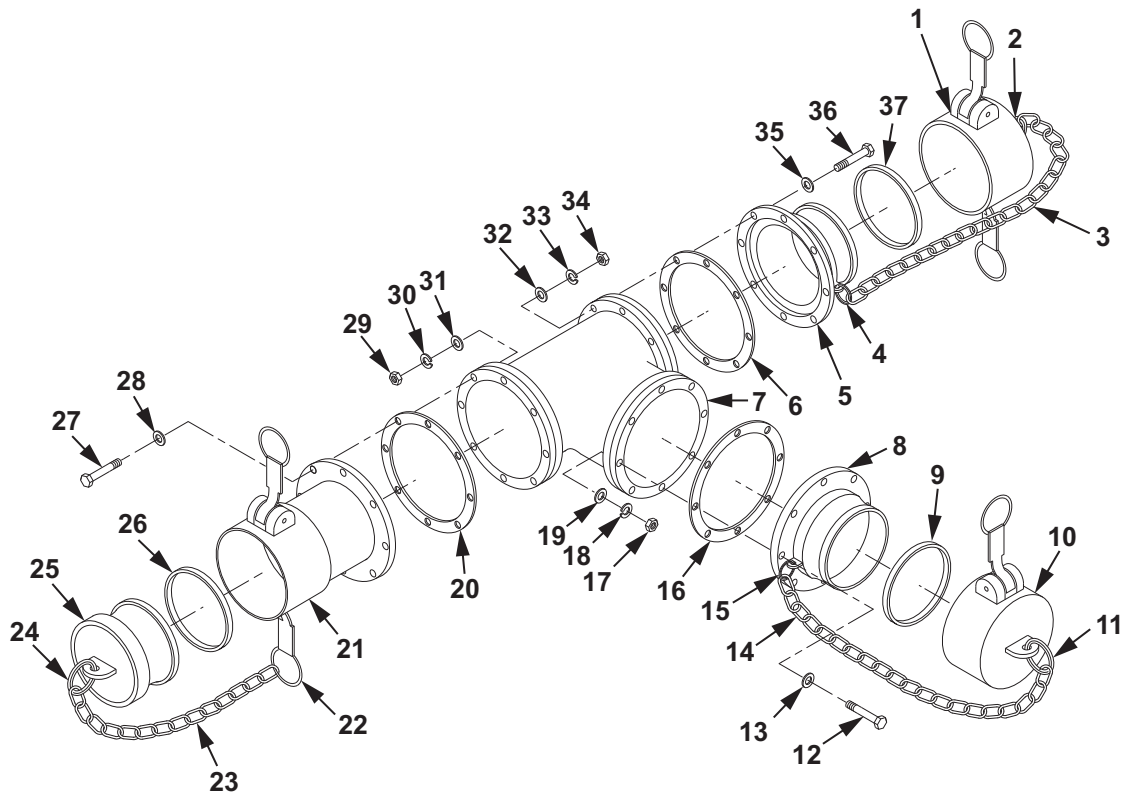

Figure 2. 4 In. Female X 4 In. Male X 4 In. Male Tee Assembly.
5. Install split ring (Figure 2, Item 15) on chain (Figure 2, Item 14).
6. Install split ring (Figure 2, Item 15) on coupling (Figure 2, Item 8).
7. Install split ring (Figure 2, Item 11) on chain (Figure 2, Item 14).
8. Install split ring (Figure 2, Item 11) on quick disconnect dust cap (Figure 2, Item 10).
9. Install split ring (Figure 2, Item 4) on chain (Figure 2, Item 3).
10. Install split ring (Figure 2, Item 4) on coupling (Figure 2, Item 5).
11. Install split ring (Figure 2, Item 2) on chain (Figure 2, Item 3).
12. Install split ring (Figure 2, Item 2) on quick disconnect dust cap (Figure 2, Item 1).
13. Install eight screws (Figure 2, Item 27) and flat washers (Figure 2, Item 28) through coupling (Figure 2, Item 21), new gasket (Figure 2, Item 20) and tee (Figure 2, Item 7).
14. Install eight washers (Figure 2, Item 31), new lockwashers (Figure 2, Item 30) and nuts (Figure 2, Item 29) on screws (Figure 2, Item 27). Hand tighten eight nuts (Figure 2, Item 29).
15. Using torque wrench and adapter, torque eight nuts (Figure 2, Item 29) to 37–43 ft lb (50–58 N·m).
16. Install eight screws (Figure 2, Item 12) and flat washers (Figure 2, Item 13) through coupling (Figure 2, Item 8), new gasket (Figure 2, Item 16) and tee (Figure 2, Item 7).
17. Install eight washers (Figure 2, Item 19), new lockwashers (Figure 2, Item 18) and nuts (Figure 2, Item 17) on screws (Figure 2, Item 12). Hand tighten eight nuts (Figure 2, Item 17).
18. Using torque wrench and adapter, torque eight nuts (Figure 2, Item 17) to 37–43 ft lb (50–58 N·m).
19. Install eight screws (Figure 2, Item 36) and washers (Figure 2, Item 35) through coupling (Figure 2, Item 5), new gasket (Figure 2, Item 6) and tee (Figure 2, Item 7).
20. Install eight washers (Figure 2, Item 32), new lockwashers (Figure 2, Item 33) and nuts (Figure 2, Item 34) on screws (Figure 2, Item 36). Hand tighten eight nuts (Figure 2, Item 34).
21. Using torque wrench and adapter, torque eight nuts (Figure 2, Item 34) to 37–43 ft lb (50–58 N·m).
22. Install new gasket (Figure 2, Item 26) and quick disconnect dust plug (Figure 2, Item 25) into coupling (Figure 2, Item 21).
23. Install new gasket (Figure 2, Item 9) and quick disconnect dust cap (Figure 2, Item 10) into coupling (Figure 2, Item 8).
24. Install new gasket (Figure 2, Item 37) and quick disconnect dust cap (Figure 2, Item 1) onto coupling (Figure 2, Item 5).